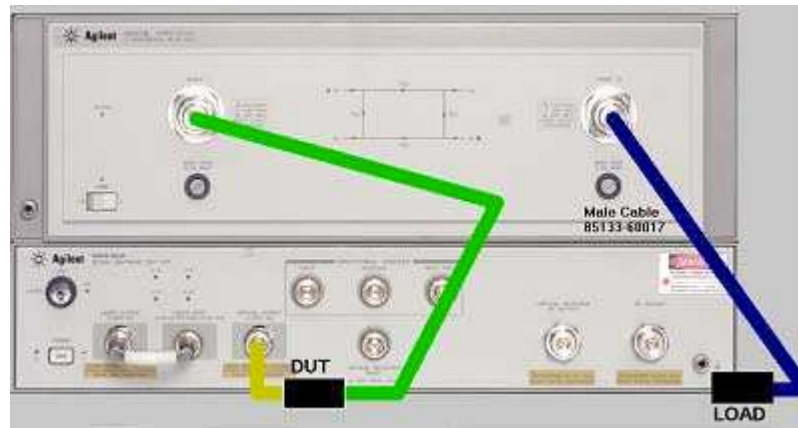

Figure 4-20. Connections for O/E Response and Match Calibration (Std10), and a Device Under Test after an O/E Response and Match Calibration
Pre-Conditions: OERESPNMATCH_STD1, OERESPNMATCH_STD2Open, OERESPNMATCH_STD3Short, OERESPNMATCH_STD4Load, OERESPNMATCH_STD5Open, OERESPNMATCH_STD6Short, OERESPNMATCH_STD7Load, OERESPNMATCH_STD8 and OERESPNMATCH_STD9 have been performed. The following connections in Figure 4-20 have been made on the instrument.
- 2 Connect a device under test, as shown in Figure 4-20.
- 6 Connect a new device under test, as shown in Figure 4-20.
Measurement Connections in Figure 4-20 are for a device under test, after performing an O/E response and match calibration.